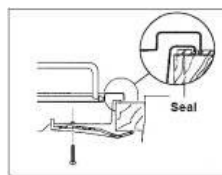

Figure 7
- Fix the hob with the relevant fixing clamps and screws, as shown in the diagram. When the screws have been tightened, the excess seal can be removed. (See Figure 7\*)